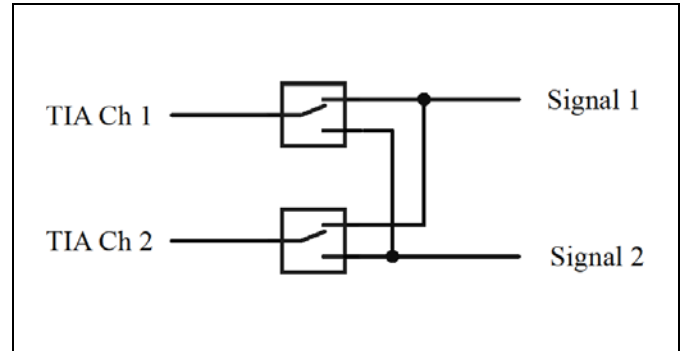

Figure 2: Signal Swapping
3. **Signal swapping** – This method uses two form C relays to exchange the signal between two TIA inputs (Figure 2). By measuring the time difference between the two signals in both swapped and unswapped conditions you can determine the skew error of the TIA. This includes the skew error of the signal path from the relays to the TIA and the TIA itself. For example, assume that Signal 1 and Signal 2 have a skew of 100 ps where Signal 1 is earlier, and that the skew errors of Ch 2 of the TIA plus the cables from the relays is 20 ps. Ch 1 is the reference in this case so its skew error is 0. The 20 ps error for Ch 2 is subtracted from the result of a Time Interval measurement from Ch 1 to Ch 2.